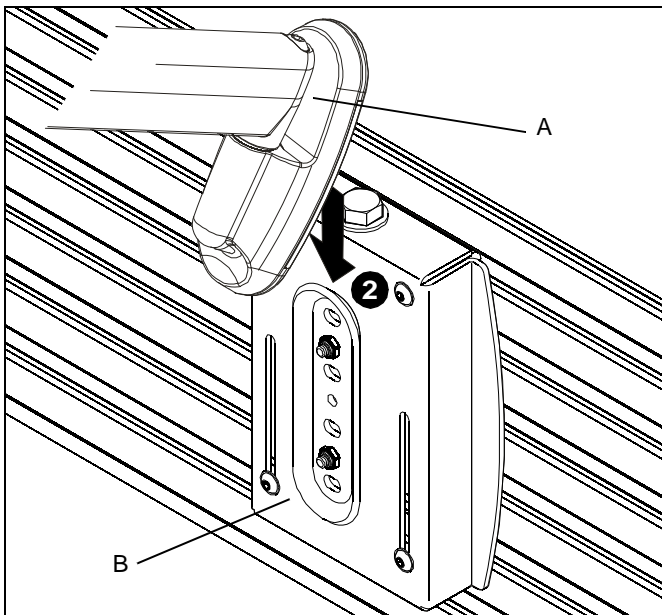

Figure 1
2. Insert top of mount (A) over lip on top of wall bracket (B). (See Figure 1)